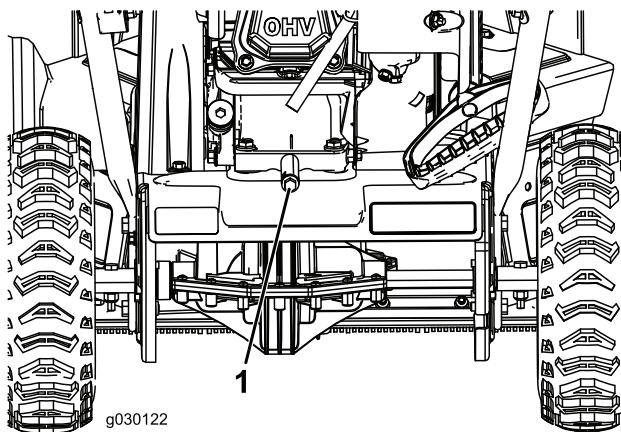

Figure 19
2. Place an oil drain pan under the oil-drain plug, remove the oil-drain plug, and tip the machine backward and drain the used oil in the oil-drain pan (Figure 19).